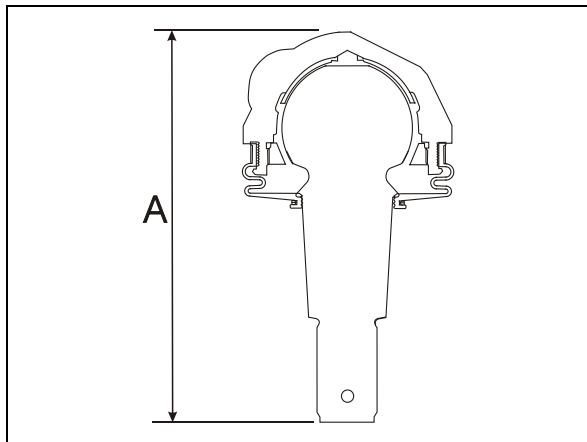

FIGURE 30: UPPER A-ARM BALL JOINT 16116
- Using a caliper, measure dimension "A" on Figure 30.